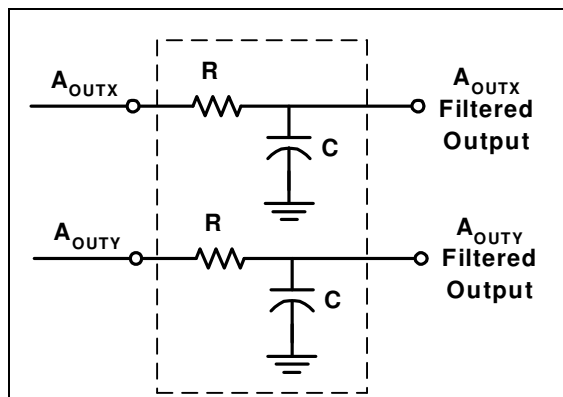

Figure 4: Low Pass Filter
**NOTE:** When designing with MEMSIC ratiometric output accelerometers (MXRxxxx series), it is highly recommended that an external, 20 Hz low pass filter be used to eliminate internally generated periodic noise that is coupled to the output of the accelerometer. The low pass filter shown in Figure 4 has a –3dB breakpoint given by the equation:  $f = \frac{1}{2\pi RC}$ . For the 200 Hz ratiometric output device filter,  $C=0.1\mu\text{F}$  and  $R=8\text{k}\Omega$ ,  $\pm 5\%$ , 1/8W.